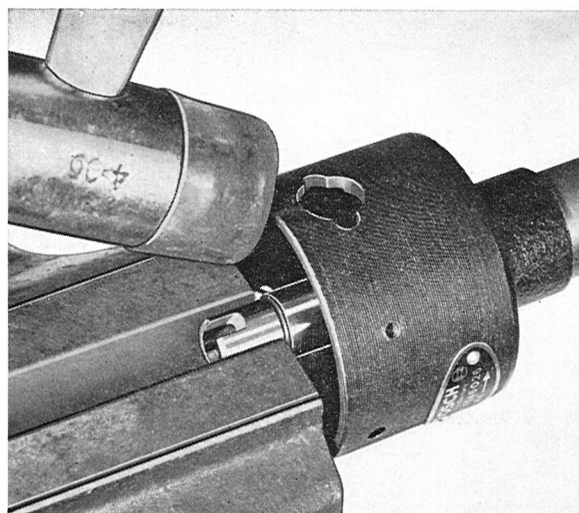

Fig. 3-99. Removing circlip
3. Disconnect the springs for the centrifugal governor and mark how the breaker cam is located in relation to the distributor shaft. Secure the breaker cam in a vise with soft jaws. Carefully knock on the distributor housing with a plastic mallet (Fig. 3-99) until the circlip (5, Fig. 3-96) has released and lift off the breaker cam.